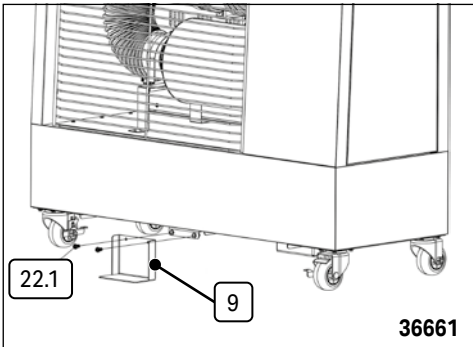
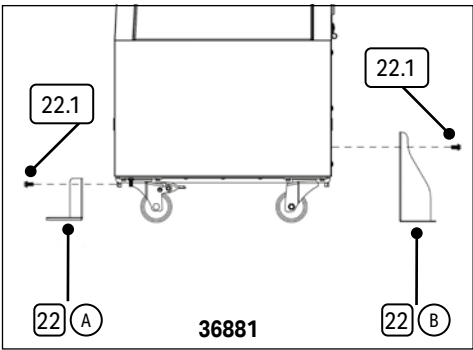

Fig. 1
Fig. 2
6.1 Fitting the Support (Fig.1 – Fig.2)
- To prevent the heater tilting - Fit the support/s 22 brackets to the bottom of the heater as shown in Fig.1/Fig.2 using the screws 22.1 supplied.